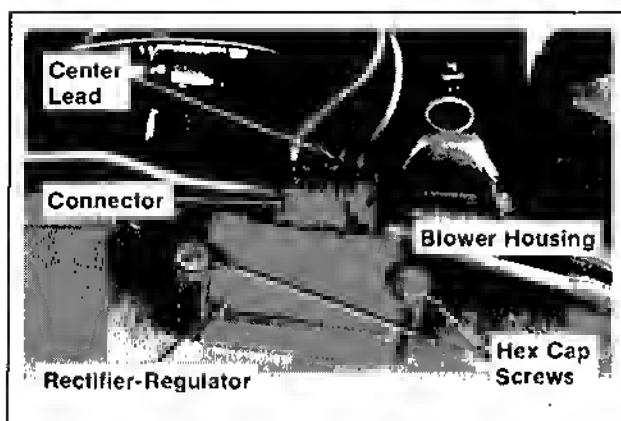

Figure 9-9. Removing Rectifier-Regulator.
1. Remove the connector from rectifier-regulator. Remove the lead from center position of connector. Remove the hex. cap screws and rectifier-regulator. Refer to Figure 9-9.